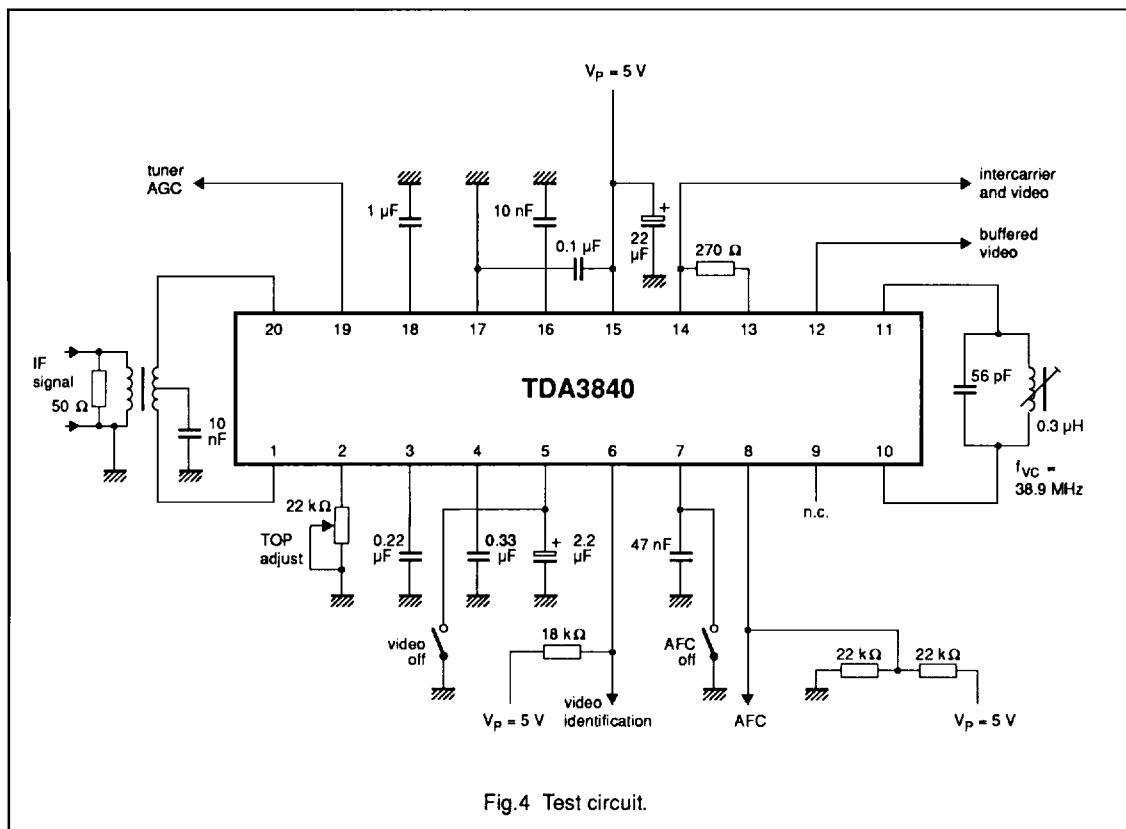

Fig.4 Test circuit.
- IF input signals are RMS values measured at TOP sync (standard B/G) and with a vision carrier of 38.9 MHz (see Fig.4). The IF input signal is fed from 50 Ω via a 1:1 transformer, DSB, to pins 1 and 20. With a 10 mVRMS IF input signal, the residual vision carrier is:
- In the test circuit of Fig.4, measured and weighted according to CCIR Recommendation 567: